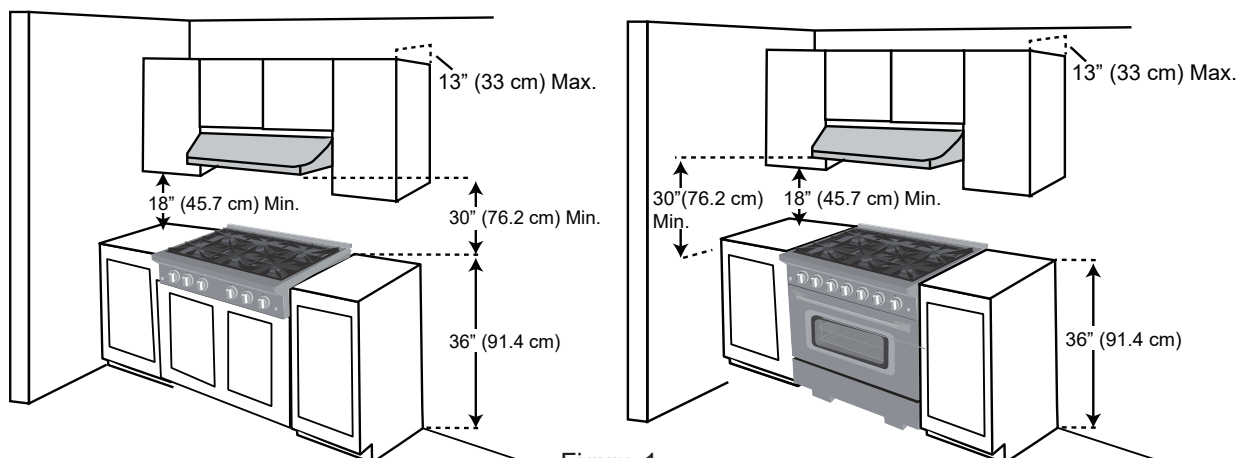

Figure 1
- Working areas adjacent to the appliance should have a minimum clearance of 18" between the countertop and cabinet bottom (see Figure 1).